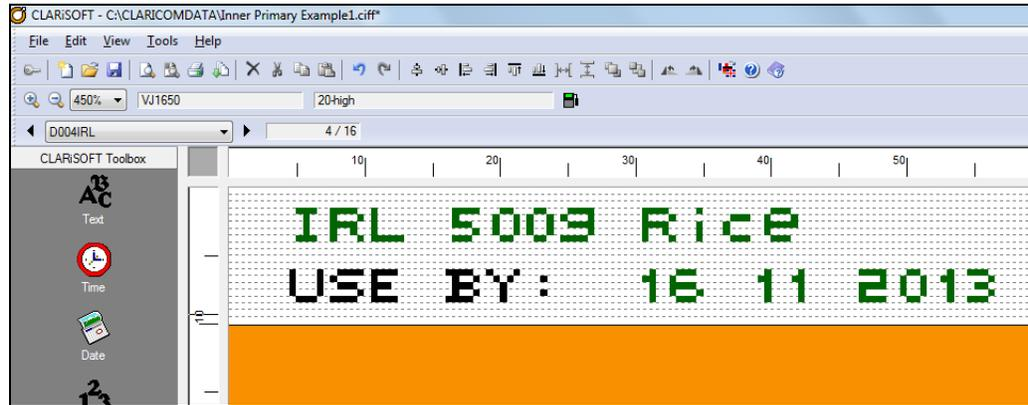

Figure 8-43: Job Code D004IRL
- 7 From the *Database Viewer*, select the job 'D004IRL'. The image design area is shown in Figure 8-43. The offset date calculated from the database is 16th November. We will create a calendar rule to automatically re-calculate the date to be one day before the original date.